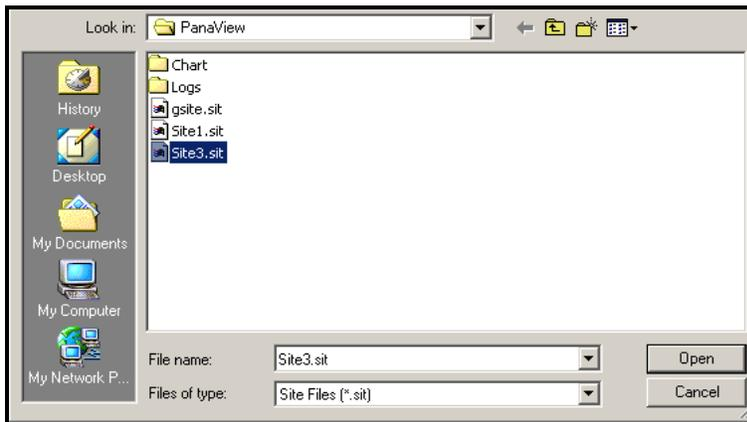

Figure 32: Site File Selection
2. Then click on the Save Site to Meter button. A screen opens similar to Figure 32.
3. The *Site File Selection* window (Figure 32) opens. Highlight a site with the desired settings, and click [Open]. PanaView saves the site in the meter with the new name and the desired settings.
3. The *Site File Selection* window (Figure 32 on page 116) opens. Enter the desired site name (now with a .prt suffix) and click [Save]. PanaView displays a text version of the site, as shown in Figure 34.